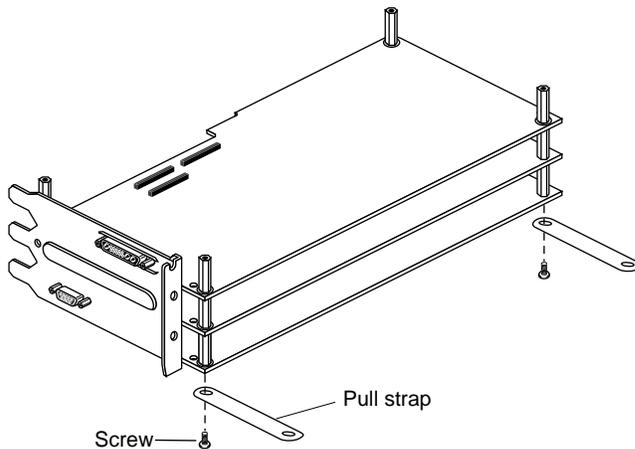

Figure 1-21 Removing the Screws That Attach the Pull Straps
5. Remove the screws that attach the pull straps to the bottom of the graphics board set, as shown in Figure 1-21. (You can turn the board set upside-down.) You can throw away the pull straps. If you removed an option board in step 2, you do not need to replace the pull straps.